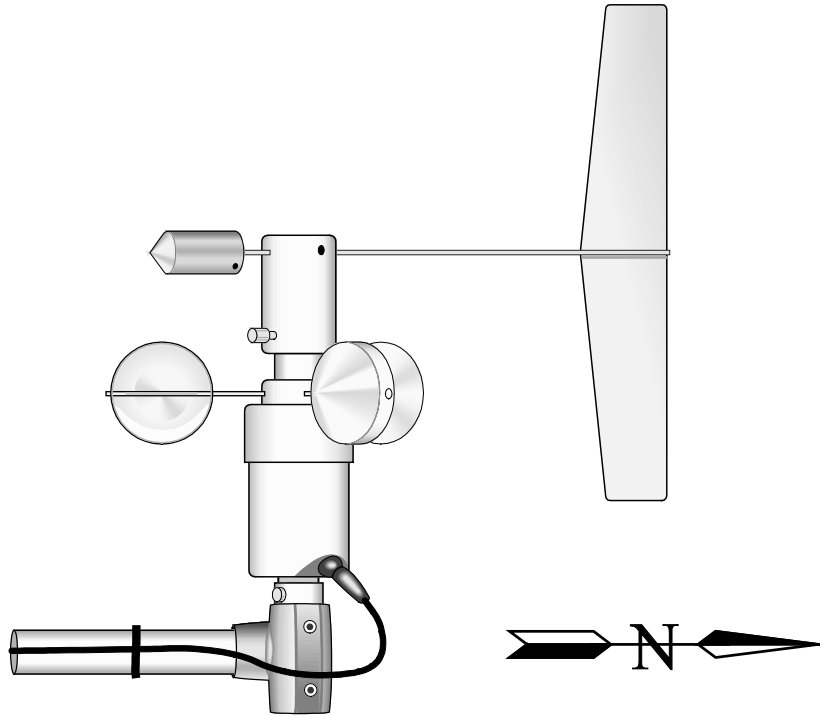
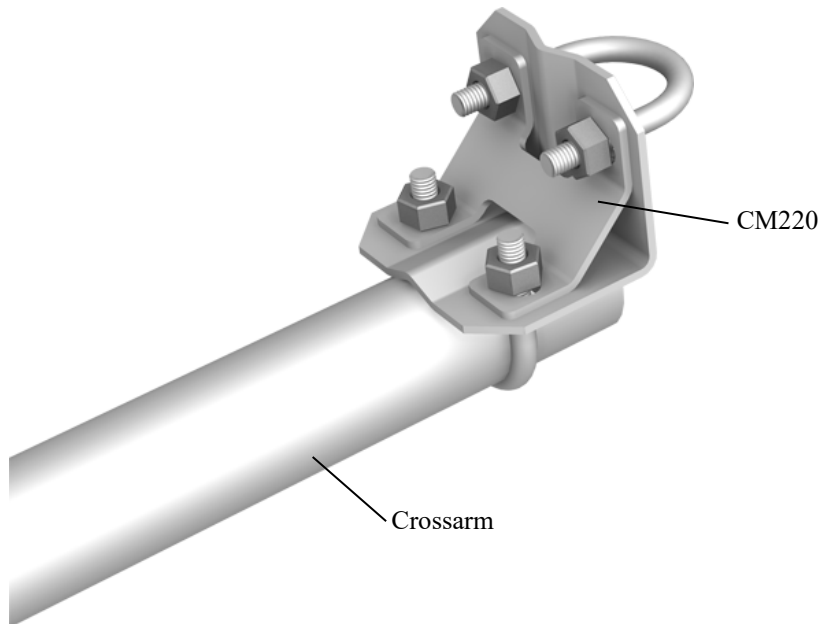

FIGURE 7-1. 034B mounted on a crossarm using a 17953 Nu-Rail® Crossover Fitting
FIGURE 7-2. Crossarm with CM220 Right Angle Mounting Bracket
The 034B is mounted to a Campbell Scientific crossarm using either the 17953 Nu-Rail® Crossover Fitting (FIGURE 7-1), or the CM220 Right-Angle Mounting Kit (FIGURE 7-2).
1. Fully insert vane arm into hub (see FIGURE 7-1).
2. Align vane with center axis of sensor (see FIGURE 7-1).
3. Using the Allen wrench, tighten set screws at the top of the hub (see FIGURE 7-1).
7. Remove the alignment screw at the base of the 034B (FIGURE 7-1).
8. Insert the 034B into the aluminum bushing provided with the sensor (see FIGURE 7-1).
9. Align the hole in the bushing with that in the 034B base and replace the screw (see FIGURE 7-1).
10. Insert the 034B/bushing into the Nu-Rail® fitting (FIGURE 7-1) or the CM220's U-bolt (FIGURE 7-2).
12. Remove the shoulder screw to allow the vane to rotate (see FIGURE 7-1).